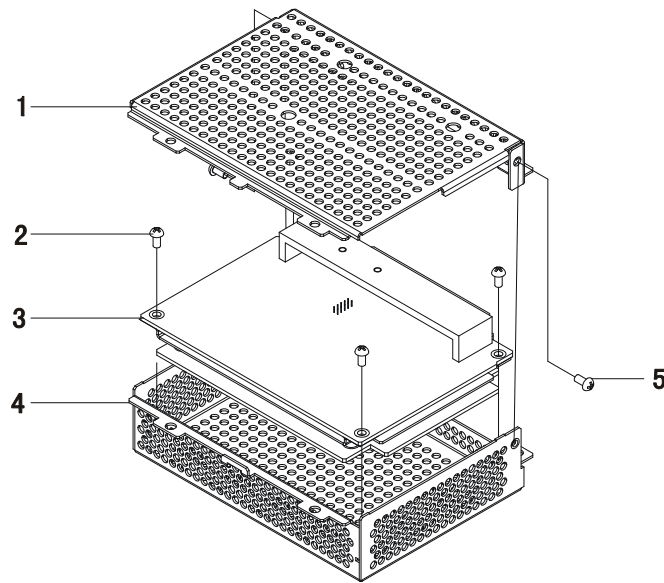

Figure 4-17 Disassembling the Power Board
- 1) As shown in Figure 4-17, remove two screws, and remove power box top cover;